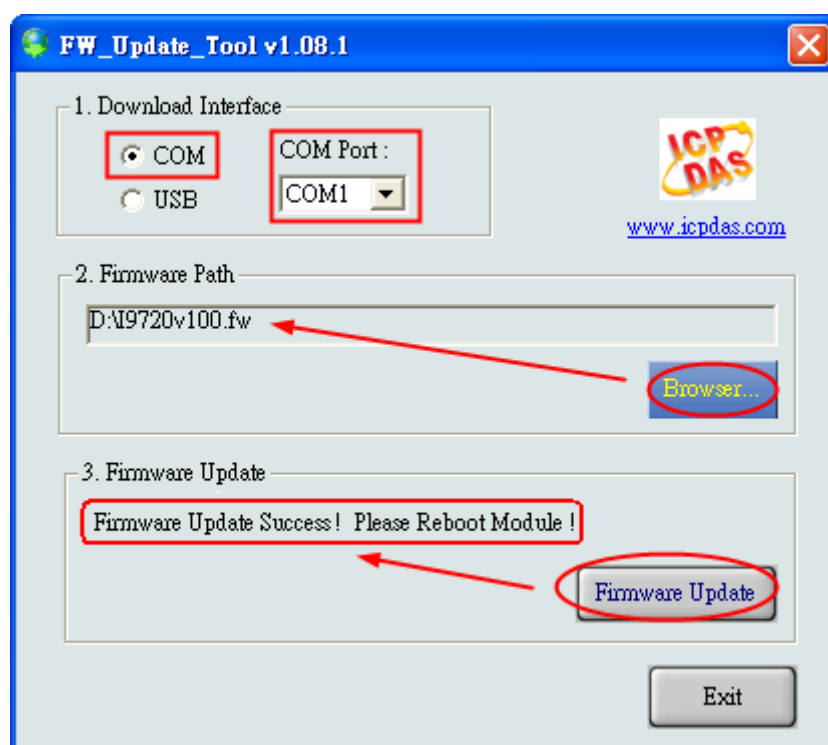

Figure 4-2 : “FW_Update_Tool”
- [4] “FW_Update_Tool” procedure: (Figure 4-2)